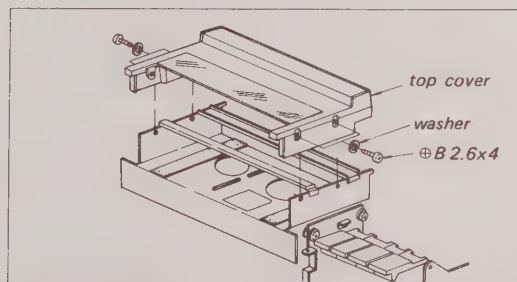

Fig. 4-4. Top cover removal of cassette loading compartment
2. Remove the two screws from both sides of the loading compartment as shown in Fig. 4-4. This frees the top cover of cassette loading compartment.